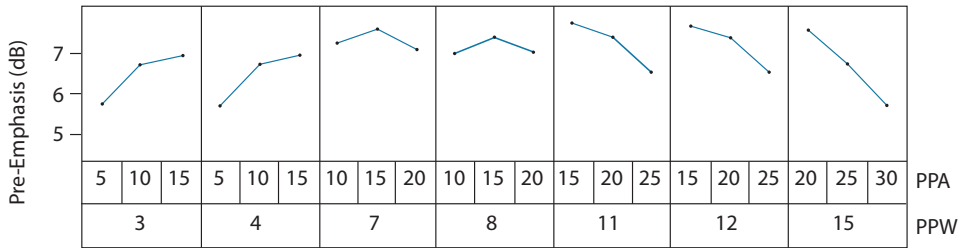
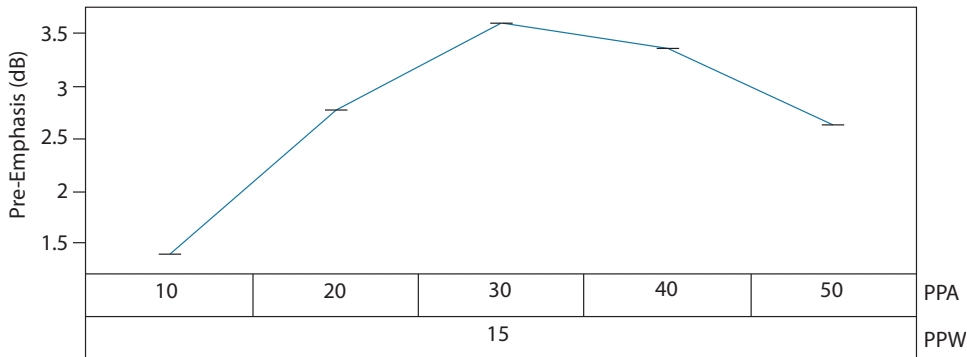

Figure 4-12: Pre-emphasis settings for VCCO_n = 1.2V and DS = 7 (swing = 200mV_{pp})
Figure 4-19: Pre-emphasis settings for VCCO_<n> = 2.5V and DS = 35 (swing = 800mV_{pp})
The only requirement of the trace driver pre-emphasis settings is to minimize ISI introduced by a lossy link and maximize the eye opening at the receiver. The Pre-emphasis compensation of the GS12142 output channel is a two-step process. The first step is to use the settings from Figure 4-12 to Figure 4-19 that best match the insertion loss of the link in the application, while the second step is a fine optimization procedure.
1. Pre-emphasis Amplitude (PPA) Optimization: Set the PPA and PPW to the values obtained from the graph selected out of Figure 4-12 to Figure 4-19, and then measure the downstream jitter. While keeping PPW constant, increment the PPA by 'a'. If the jitter is lower after the first increment, continue to increment by 'a' until the jitter begins increasing or a setting of 50 is reached. If there was a setting which resulted in a lower jitter measurement than the initial setting, that is the Optimized Pre-emphasis Amplitude setting: PPA_{Optimal}, and the PPA optimization procedure is complete.
If incrementing the PPA or decrementing the PPA did not result in a setting with lower jitter, then the initial setting obtained from the graph selected out of Figure 4-12 to Figure 4-19 is the PPA optimized Pre-emphasis Amplitude setting: PPA_{Optimal}.
2. The second step is to set the PPA to the optimized setting PPA_{Optimal} determined in step 1 and PPW to the values obtained from the graph selected out of Figure 4-12 to Figure 4-19, then measure the downstream jitter. While keeping PPA constant, increment the PPW by 'w'. If the jitter is lower after the first increment, continue to increment by 'w' until the jitter begins increasing or a setting of 15 is reached. If there was a setting which resulted in a lower jitter measurement than the initial setting, that is the Optimized Pre-emphasis Width setting: PPW_{Optimal}, and the optimization procedure is complete.
If incrementing the PPW or decrementing the PPW did not result in a setting with lower jitter, then the initial setting value obtained from the graph selected out of Figure 4-12 to Figure 4-19 is the optimized Pre-emphasis Width setting: $PPW_{Optimal}$.